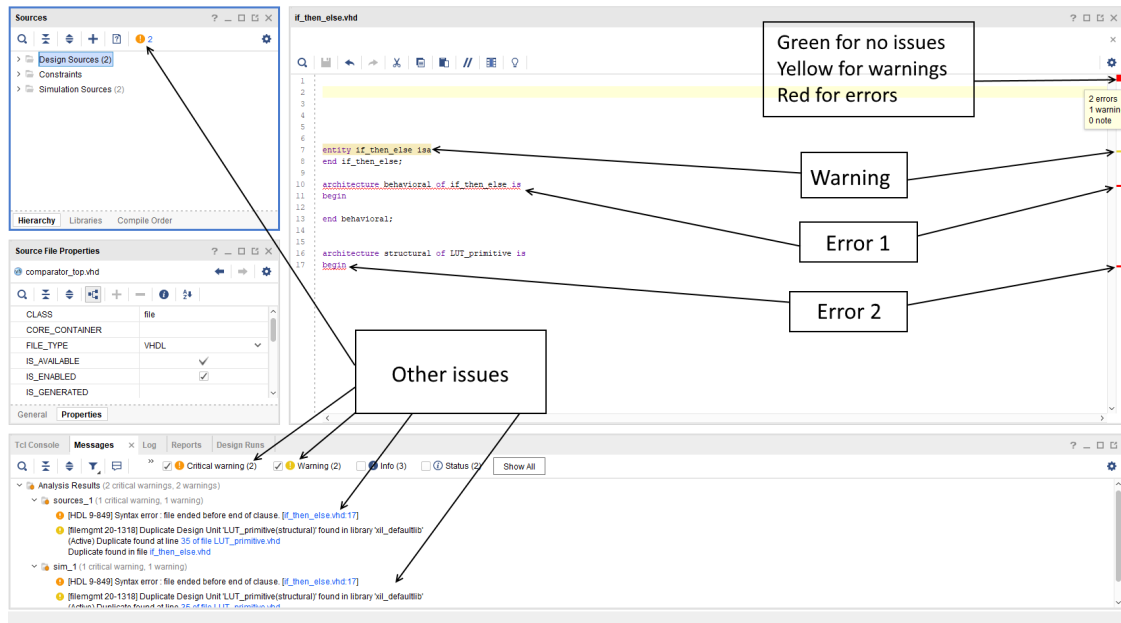

Figure 6: Coding errors in Vivado
- (c) Finding coding errors: when coding, it is very common to make mistakes. Figure 6 shows you where you can find errors in your code as early as possible. If you fix all errors and you are still getting errors when running any of the building or testing processes (simulation, synthesis, ...), then you will find the error in the TCL Console window at the bottom.